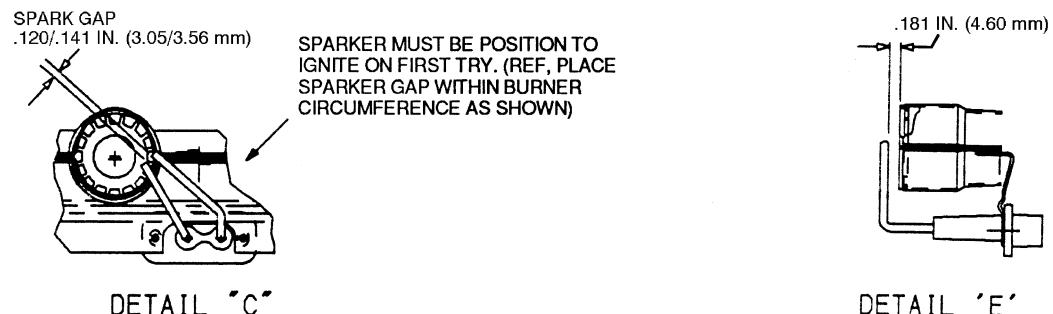

Fig. 46 — Spark Adjustment
4. Adjust spark gap. See Fig. 46.